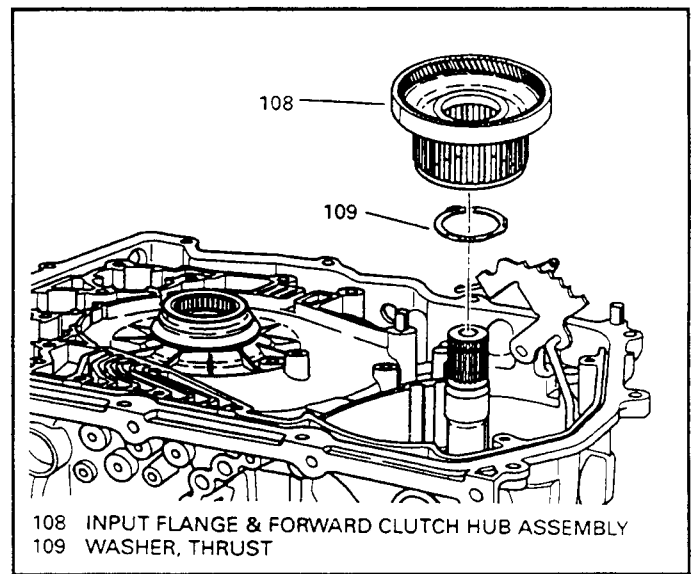

Figure 74
73. Remove the ring gear and forward clutch hub assembly, as shown in Figure 74.
74. Remove the forward clutch hub to race thrust washer (109) if it did not remain with forward clutch hub (See Figure 74).